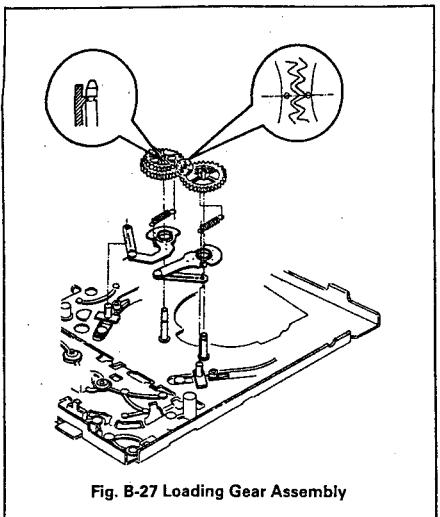

Fig. B-27 Loading Gear Assembly
- ① Use a Hexagonal wrench to remove set screw.
- ② Take notice that the P2 and P3 Slant Assembly should not be changed from their original place.
27. Loading Gear Assembly(L),(R)(Fig. B-27)